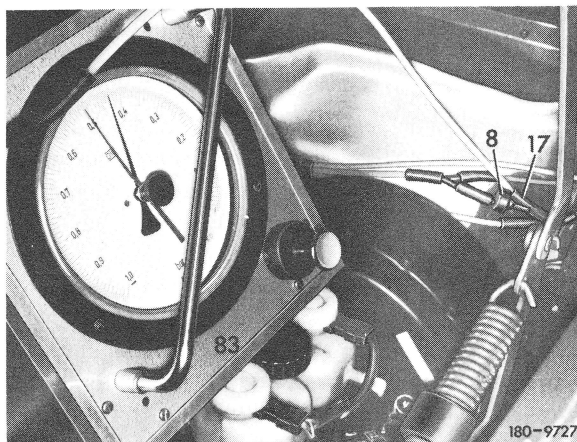

Fig. 1
Pull check valve (8) out of connection (17) and connect tester (83) (Fig. 1).